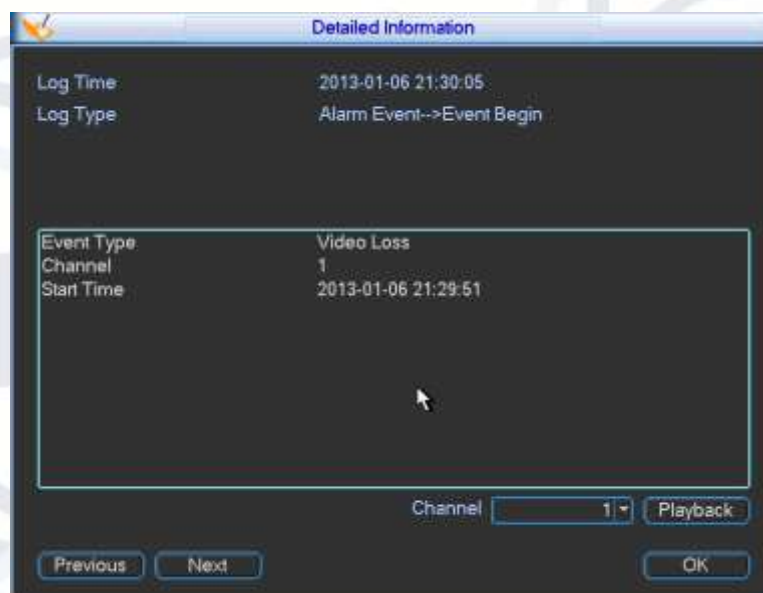

Figure 4-11
- **Details:** click the 'Details' button or double click the log item, you will then be able to view the information related to that log file (See Figure 4-11). Here you can use the grey highlighted rolling bar to view the information, or you can use Page up/Page down to view other log information not shown on the current list. To view the alarm event log for video loss, you can click the Playback button at the bottom right corner to commence playback.